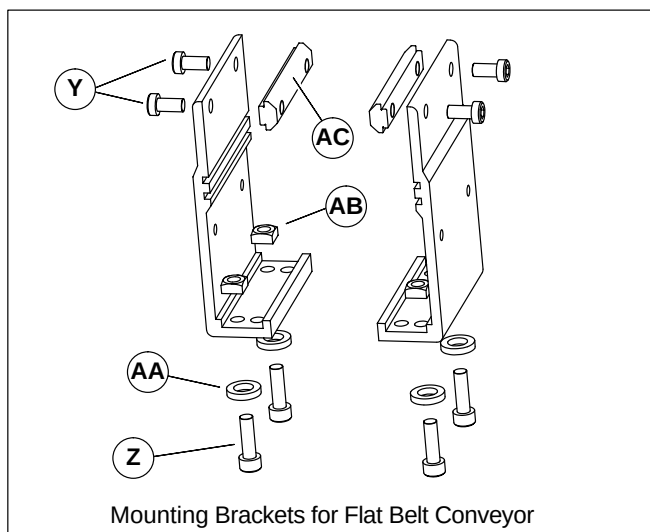
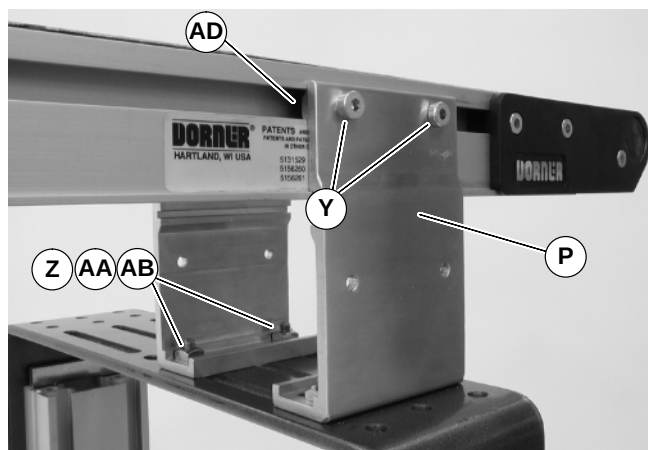

Figure 9
Figure 10
1. Locate brackets. Exploded views shown in Figures 9.
3. Insert T-bars (AC of Figures 9) into conveyor side slots (AD of Figure 10). Fasten brackets (P of Figure 10) to conveyor with mounting screws (Y).
4. Fasten brackets to support stand with mounting screws (Z of Figure 10), washers (AA) and nuts (AB).
5. Tighten screws (Y & Z of Figure 10) to 7 Nm.